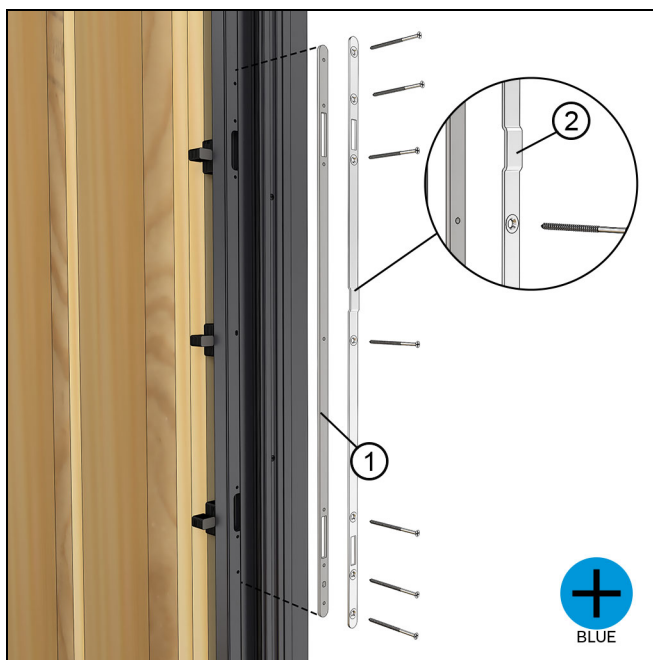

Figure 56
12. On OX, XO, OOX, or XOO, configurations, install the strikes. Pre-drill with a 3/16" drill bit through the holes in the jamb retainer, then shim and fasten with #8 x 3" Phillips head screws. See Figure 56, Figure 57, and Figure 57.